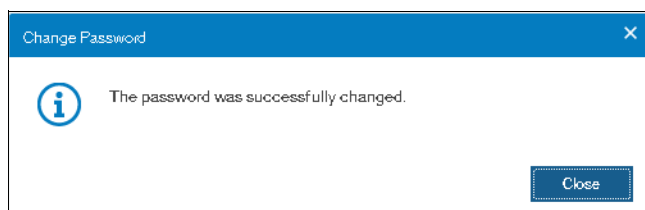

Figure 2-26 Setup wizard: Password changed
6. You will see password successfully changed message as shown in Figure 2-26.